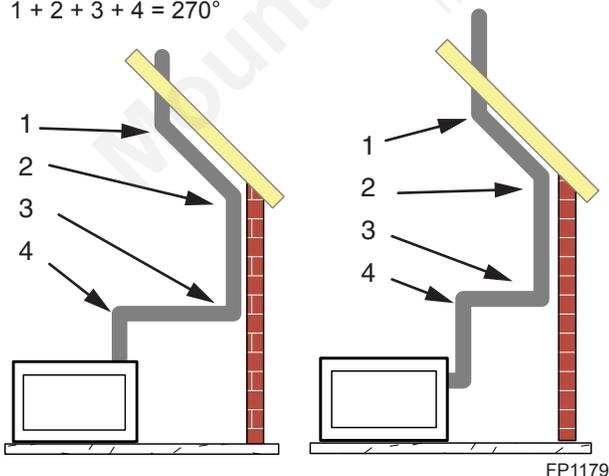

Figure 34 - Maximum Elbow Usage
- The maximum angular variation allowed in the system is 270°. *Figure 34*